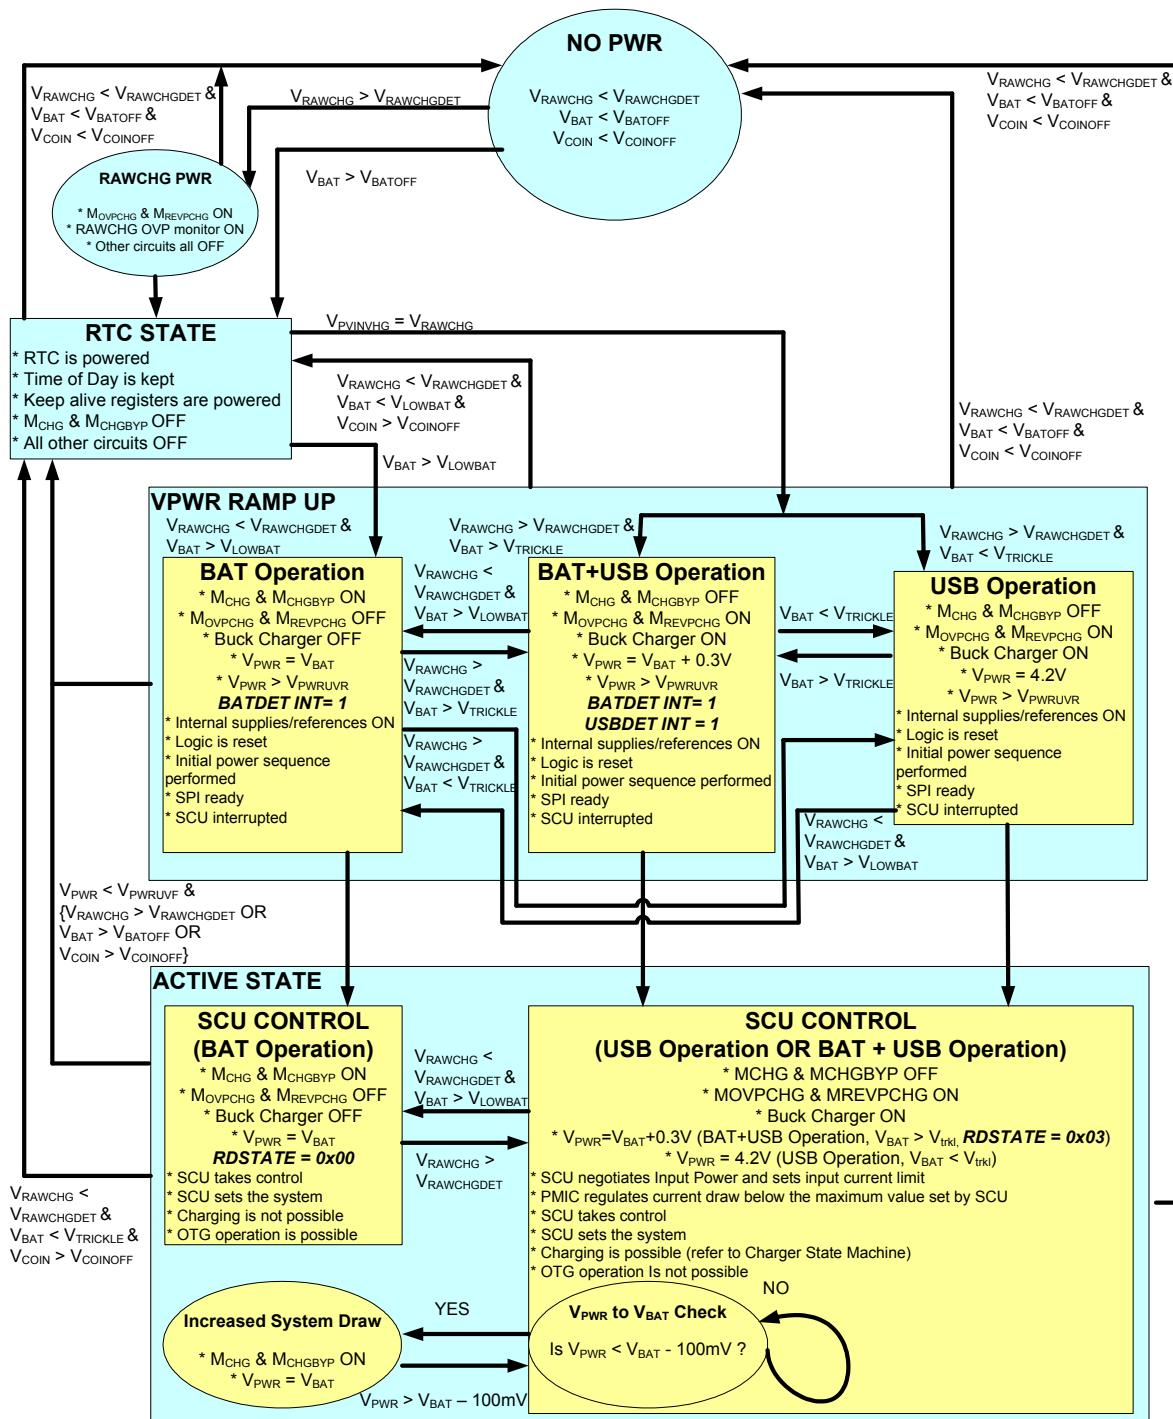

Figure 18. 900841 Power States
Figure 18 shows the flow of power, the different power states, and the conditions necessary to transition between
1. $V_{RAWCHG} > V_{RAWCHGDET}$: A charger input is valid and has been detected. Note that this is the same condition for an RTC state. This means that if this condition occurs, the device goes through the RTC state, then directly into a VPWR ramp up sequence to try and get to the active state (see Figure 18 for more details).
Reference Figure 18 and Battery Interface and Power Path Management.